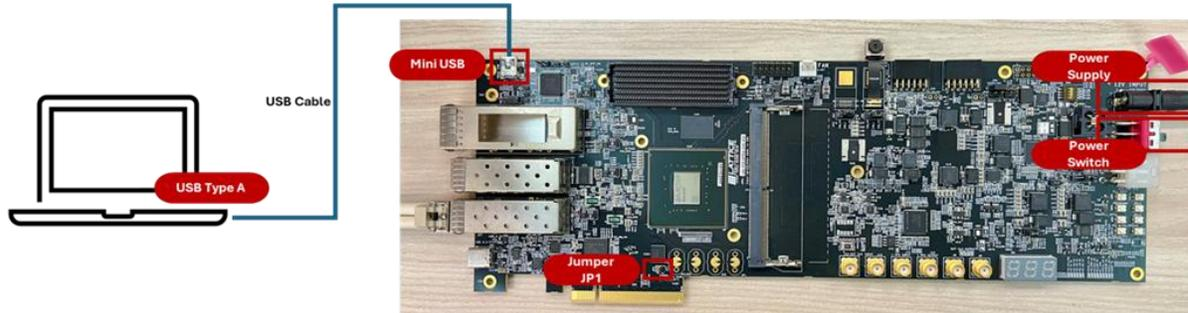

Figure 6.25. Hardware Setup for Bit File Programming
1. Connect the board to the PC using a mini-USB Type-A cable, as shown in Figure 6.25. Ensure jumper **JP1** is properly connected. Connect the power adapter to the board power port and turn the switch **ON**. The board is now ready to be programmed.